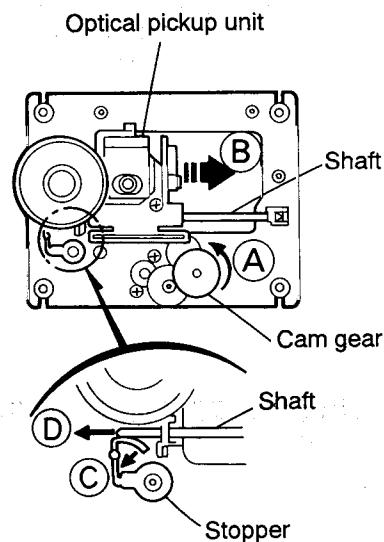

Fig. 5-12
■ Removing the Optical Pickup Unit (See Fig. 5-12)
1. Move the cam gear in the arrow direction (A). Then, the optical pickup unit will be moved in the arrow direction (B).
3. While pressing the stopper retaining the shaft in the arrow direction (C), pull out the shaft in the arrow direction (D).